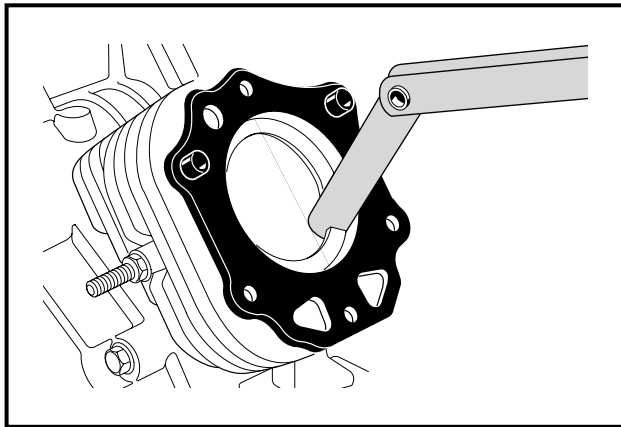

Figure 13-52 Measure Ring End-Gap
2. Using a feeler gauge, measure the ring end-gap (**Figure 13-52, Page 13-28**).